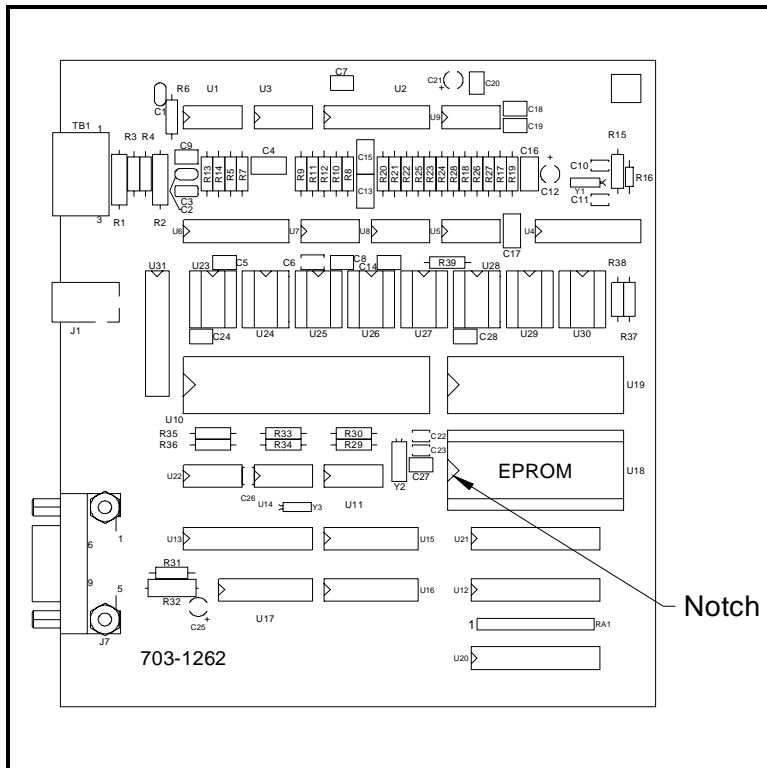

Figure 4-3: EPROM (U18) Notch Location
1. Refer to Figure 4-3 on page 4-18 to locate the EPROM (labeled U18) on the component side of the main printed circuit board.
3. Insert the new EPROM into the socket labeled U18, making sure the notch on the EPROM aligns with the notch on the socket. See Figure 4-3 on page 4-18.